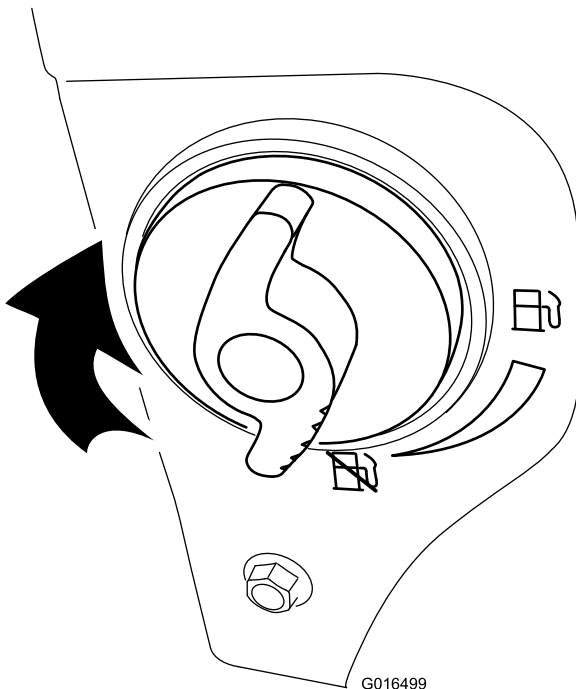

Figure 28
4. Close the fuel-shutoff valve by rotating it clockwise (Figure 28).